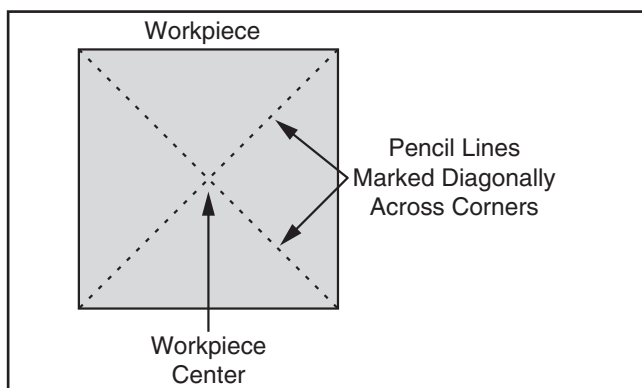

Figure 39. Workpiece marked diagonally from corner to corner to determine the center.
1. Find the center point of both ends of your workpiece by drawing diagonal lines from corner to corner across the end of the workpiece, as shown in **Figure 39**.